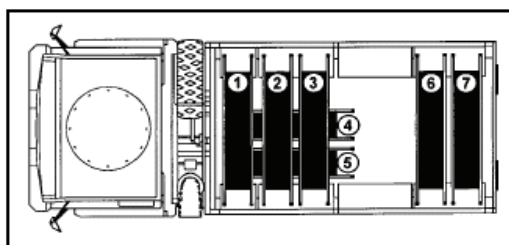

Figure 3-61. Load an M-1081
4. Direct nonmedical Soldiers to load an M-1081. Refer to Figure 3-61.